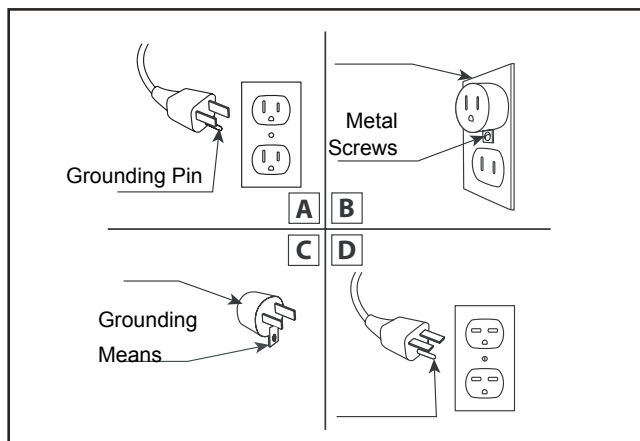

Fig. 1
23. See directions in Figure 1. This heater is for use on 120 volts. The cord has a plug as shown in figure 1. See Figure 1 for grounding instruction. An adapter as shown at C is available for connecting three-blade grounding type plugs to two-slot receptacles. The green grounding plug extending from the adapter must be connected to a permanent ground such as a properly grounded outlet box. The adapter should not be used if a three-slot grounded receptacle is available.